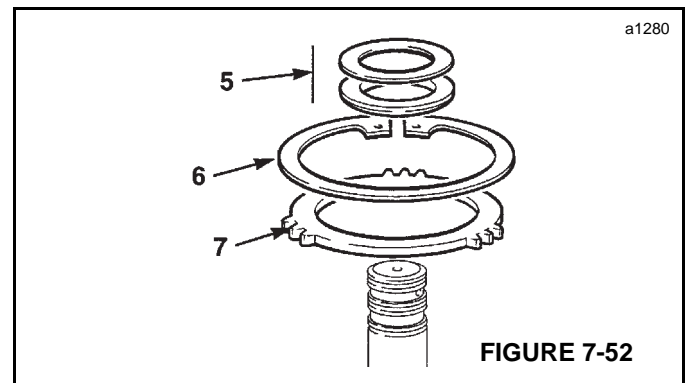

FIGURE 7-52
- Remove plastic type washer and thrust washer (5, Figure 7-52).
- Remove the clutch friction/counter plates retaining ring (6).
- Remove pressure (end) plate (7).